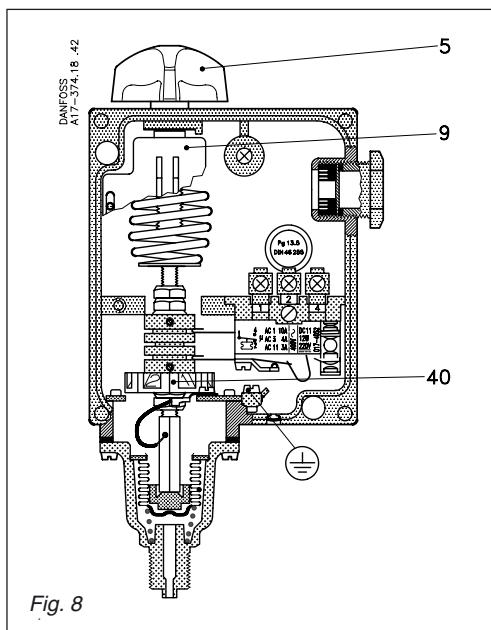

Fig. 8
The range is set using the setting knob (5) fig. 8 while reading the range scale (9). The pressure set is the break pressure for contacts 1-4 (see fig. 13).
The RT 200L must be set using the setting knob (5) fig. 8 page 11 at 3.5 bar (35 m wg) minus the fixed differential of 0.2 bar.
The neutral zone,  $35 - 32 = 3$  m wg, corresponding to 0.3 bar, must be set on the neutral zone disc (40) fig. 8 page 11. According to the diagram fig. 12 the disc setting is 1 or just over. A more accurate setting can be obtained by using the test setup shown in fig. 14.